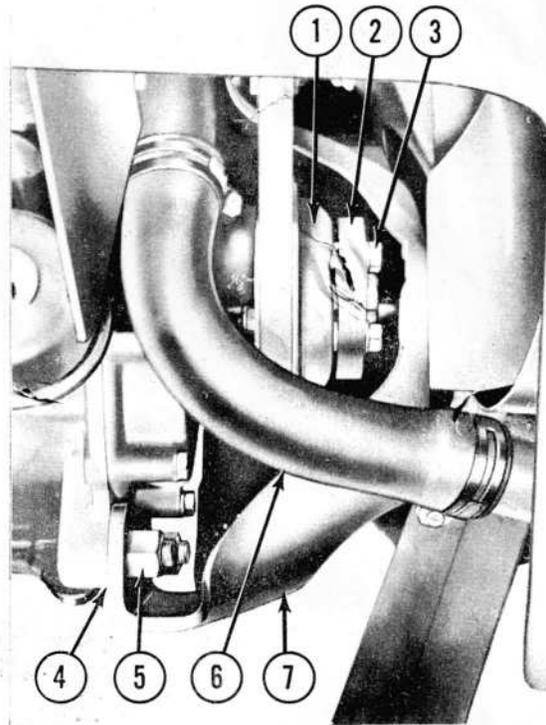
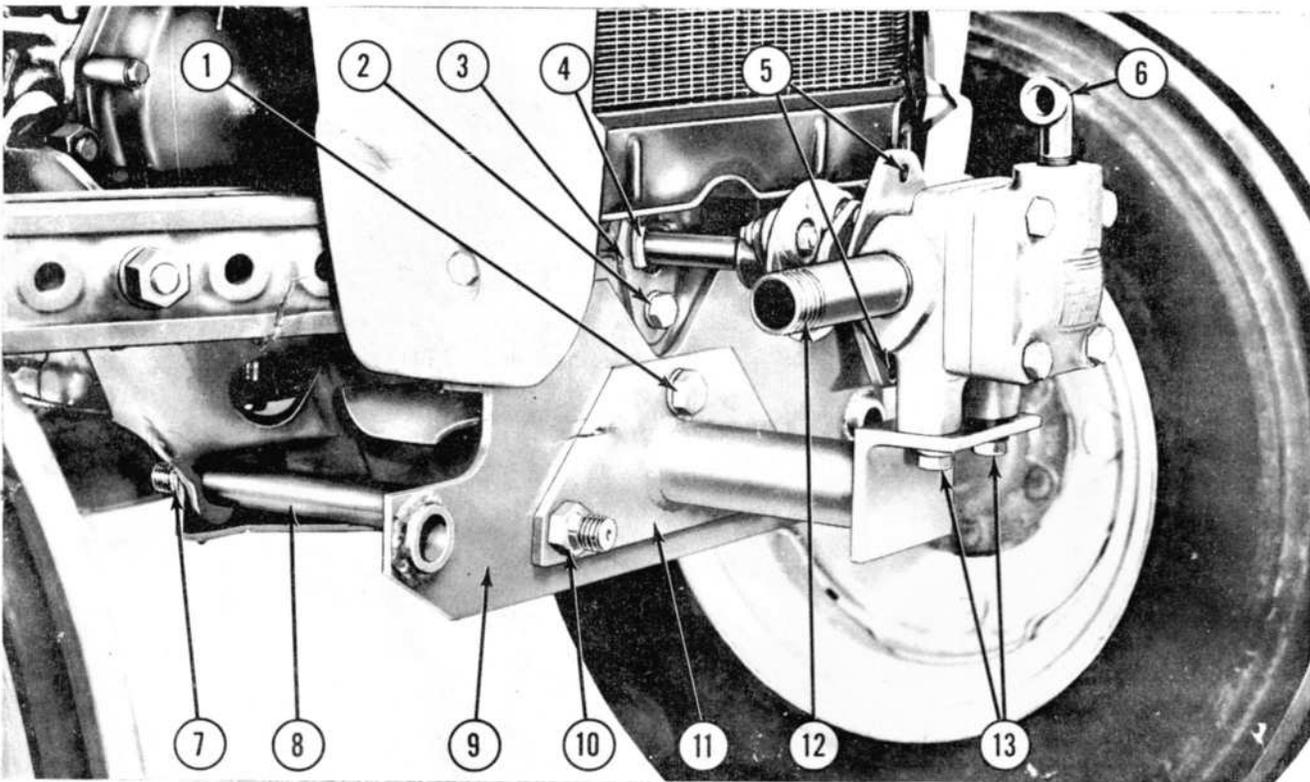

Figure 9
Figure 11
Figure 9, on tractors equipped with power steering, it is necessary to gain additional clearance between the power steering belt pulley and the axle pin. Sufficient clearance can be obtained as follows:
- b. Loosen the four $\frac{5}{8}$ "-18 hex nuts securing the front axle support to the engine block, see (5) Figure 9.
- c. Install a suitable wedge between the engine block and the axle support just below the upper $\frac{5}{8}$ " x $2\frac{1}{16}$ " stud on each side of the tractor, see (4), Figure 9.
- d. Install the hub as outlined in step 4, then tighten the four nuts (5) securely, and remove the jack.
4. Place four $\frac{7}{16}$ " x $1\frac{3}{8}$ " hex head bolts and lockwashers in the drive hub (2), Figure 9, and position the assembly on the front of the crankshaft pulley (1), by working it through the opening (4) on the right side of the engine suspension plate (5). Caution must be taken to position the drive hub without dropping the hex head bolts (3), Figure (9), from the drive plate or moving the crankshaft pulley (1). Make sure that all of the hex head bolts (3), are partially started in the holes of the crankshaft pulley before attempting to tighten them securely.
NOTE: It may be necessary to remove the bolt (2), Figure 11, and plate (3), and unscrew the pin (4), to allow sufficient clearance between the pulley (1), Figure 9, and the suspension plate (5) for installation of the drive hub (2).
5. Use a thin wrench to tighten the hex head bolts (3), Figure 9.
6. Insert the two $\frac{3}{4}$ " x $12\frac{1}{2}$ " rods (8), Figure 11, through the holes provided in the engine support and install the $\frac{3}{4}$ " self-locking nuts (7).
7. Position the front support plate (9), Figure 11, and the pump mounting bracket (11), over the front of the $\frac{3}{4}$ " x $12\frac{1}{2}$ " rods (8) and install the $\frac{5}{8}$ " x $1\frac{1}{2}$ " hex head bolt (1) and lockwasher provided.
8. Install the $\frac{3}{4}$ " self-locking nuts (10), Figure 11, and secure.
- c. Install the pump on the mounting bracket (11), Figure 11, using the two hex head bolts (13), and lockwashers provided. Leave the two hex head bolts loose and turn over the engine a few times by means of the starter. This will align the pump drive assembly. Tighten the two hex head bolts.
13. Install the inlet pipe (12), Figure 11, the $\frac{1}{2}$ " x 90° street ell (6), on the pump.